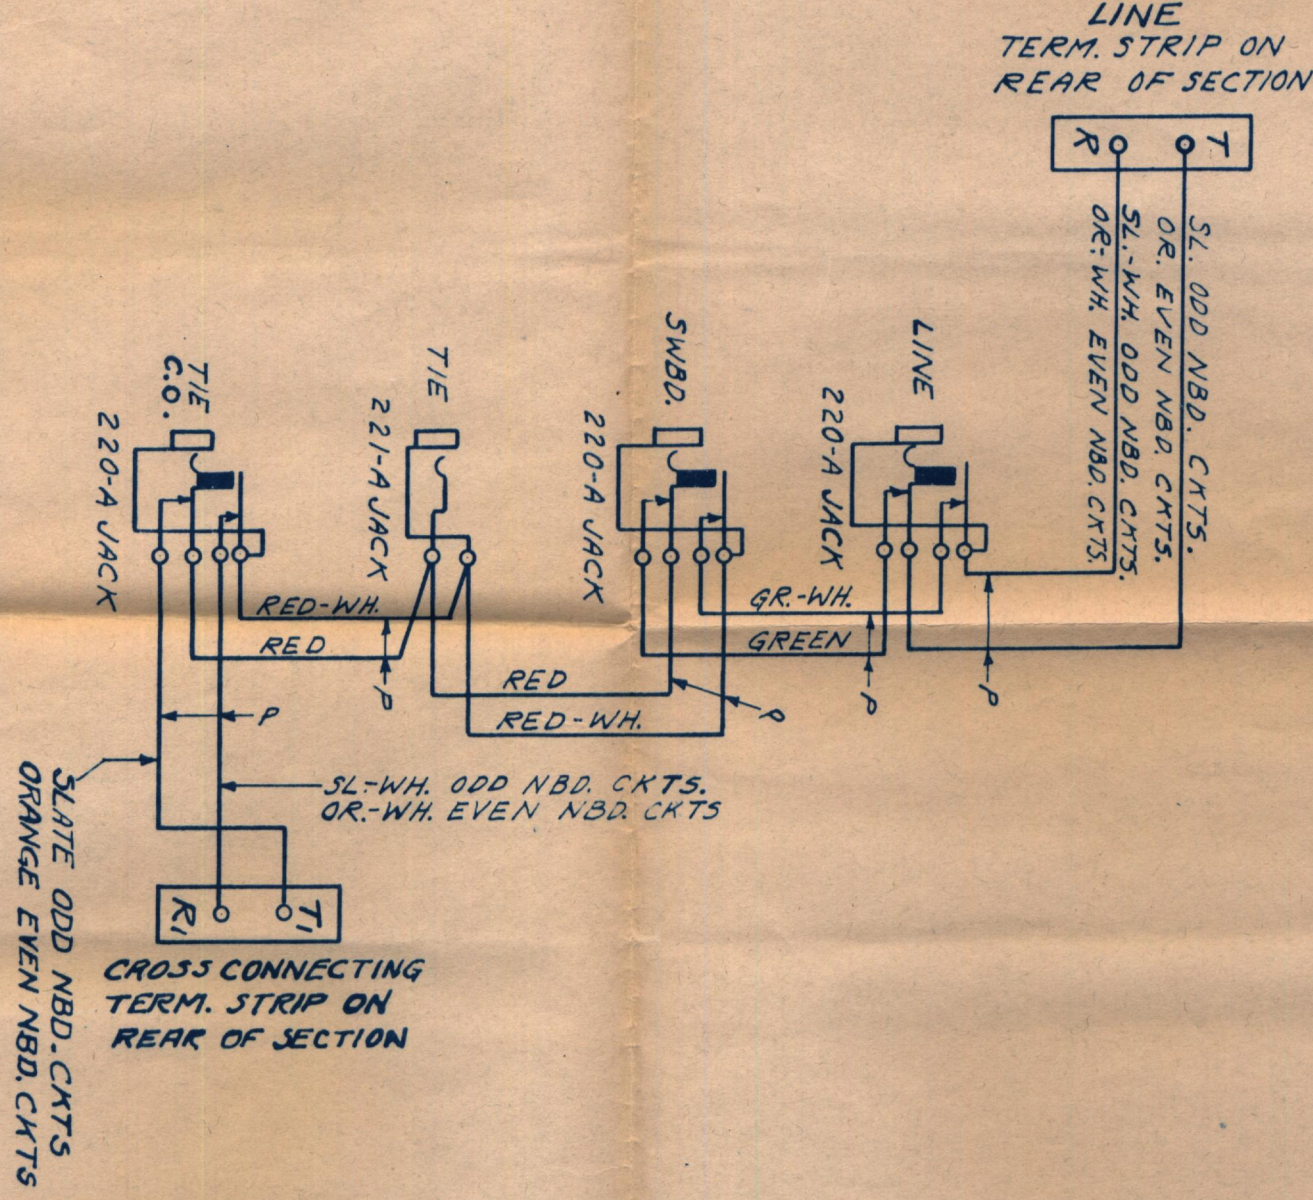

FIG. 2
- J Jack circuits, Dwg. SC-D-1172, Fig.2